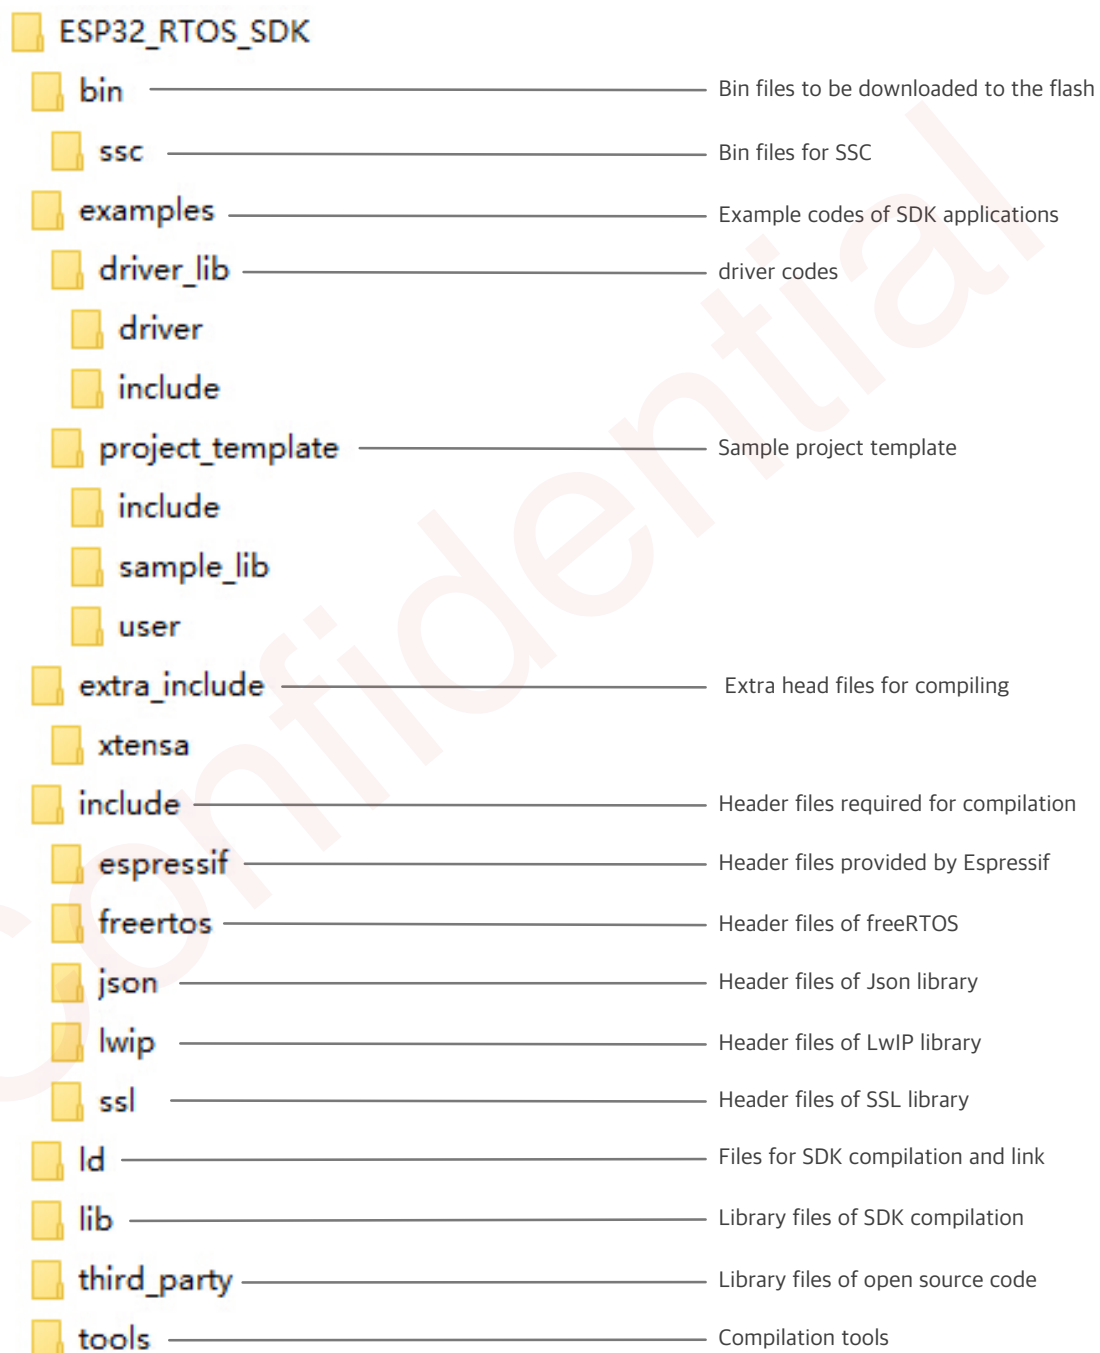

Figure 1-2. Package Components
- For the package components, refer to Figure 1-2.
- **esptool_ESP32.py** file is in the **ESP32 RTOS SDK > tools** folder, refer to **Figure 1-2. Package Components**.